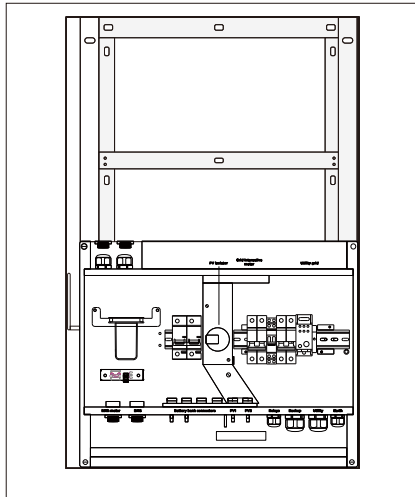

Figure 6: Mounting the BOS
- After attaching the mounting plate to the wall, lift the BoS and place it on the two mounting hooks. Ensure that both hooks are engaged before releasing the BoS as shown in Figure 6.
- After placing the BoS on the mounting plate, lift the Inverter and place it on the BoS in a way that the male and female connectors are engaged and locked as shown in Figure 6.